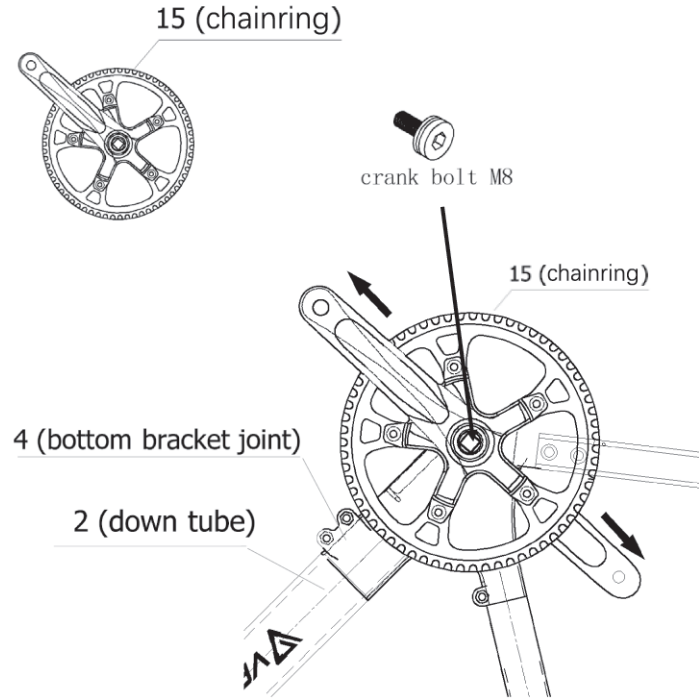

Figure 26: Install the chainring.
- b. Ensure that the crank on Part 15 and the pre-installed crank on Part 4 are positioned at 180°, and then install Part 15 on Part 4, as shown in Figure 26.